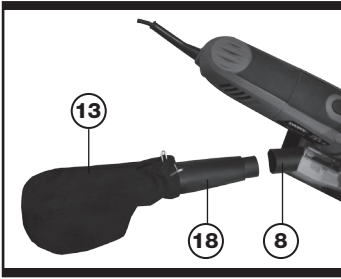

Fig. 4
4. DUST EXTRACTION (See Fig.4)